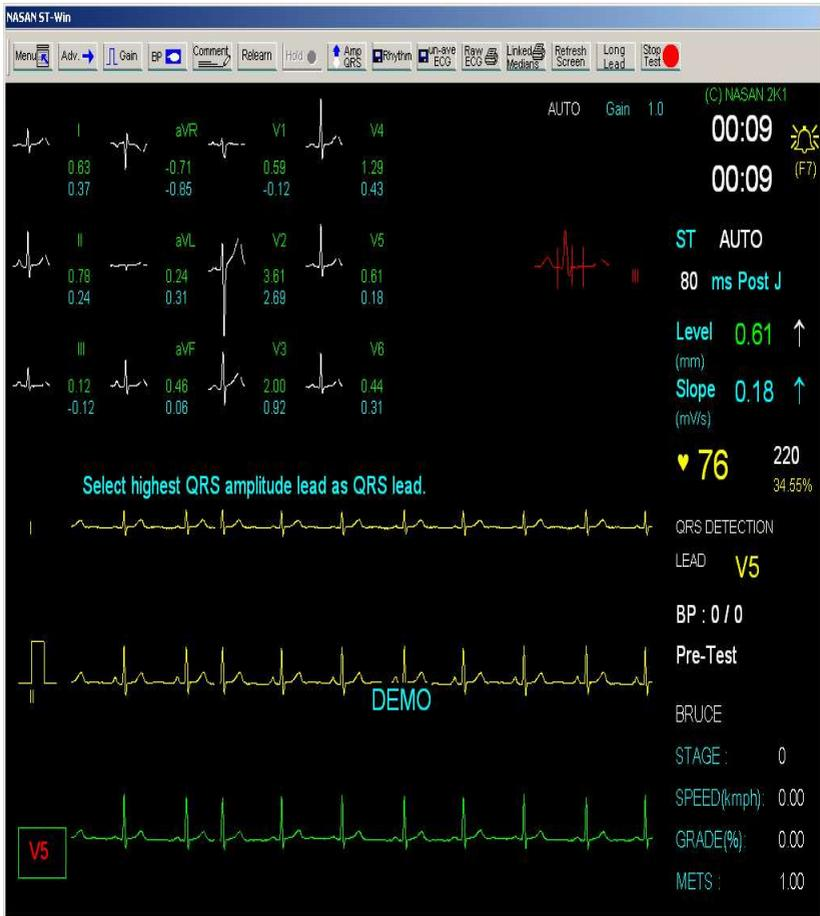

Fig. 4.3: Acquisition screen.
2. Click '**OK**' button to start the acquisition. An acquisition screen is displayed as shown in fig 4.3.